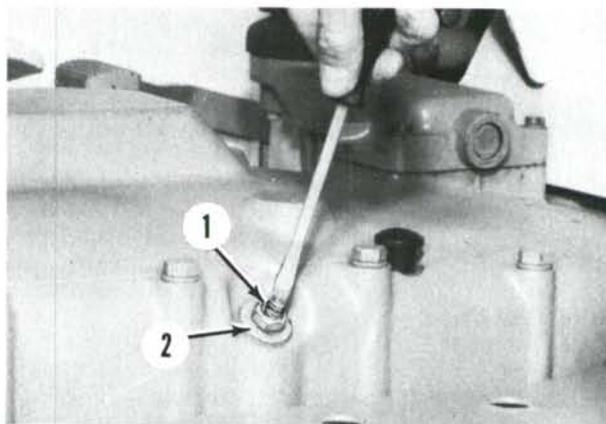

Fig. 206—Remove adjusting screw (1) and plug (2) from left-hand side of transmission cover to gain access to rear planetary brake band adjusting nut.
**267. REAR BRAKE BAND.** Remove jam nut, adjusting screw (1—Fig. 206) and plug (2) from left side of transmission cover to gain access to rear brake band adjusting nut. Start engine, put range selector in neutral and put power shift in fourth. Increase engine speed until pressure gage (1—Fig. 205) reading reaches 515 kPa (75 psi). Turn brake band adjusting nut clockwise until engine speed drops 25 rpm. Depress clutch pedal, then turn adjusting nut counterclockwise four turns.